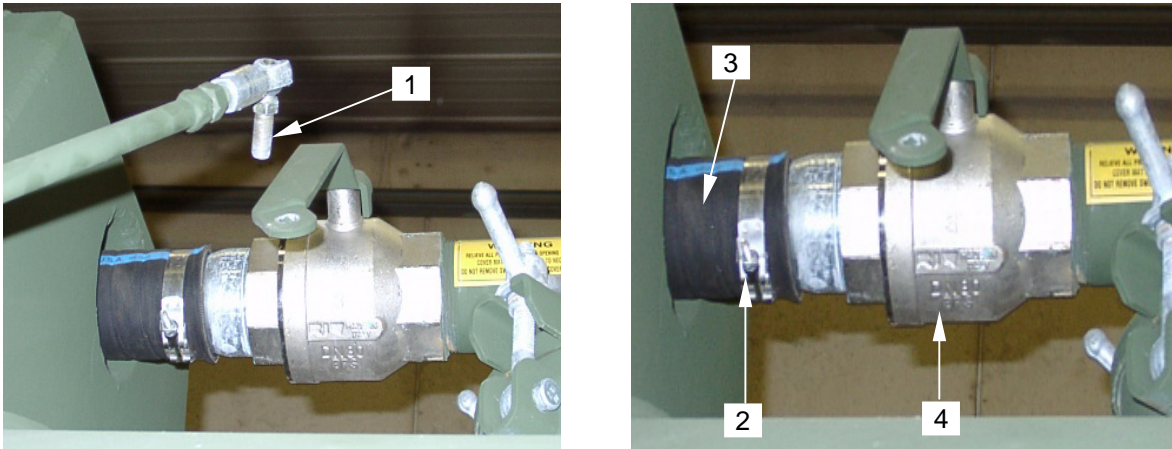

Figure 1. Primary Shutoff Linkage and Upper Air Hose Clamp Removal
2. Remove the nut on the handle linkage (**figure 1, item 1**), and disconnect linkage.
3. Loosen hose clamp (**figure 1, item 2**) on upper air hose (**figure 1, item 3**) and disconnect it from the isolation valve (**figure 1, item 4**).